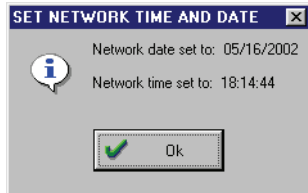

Figure 2-43: Setting Network Date and Time
3. Click on the  button. After a brief pause, the Set Network Date And Time window appears (see Figure 2-43).